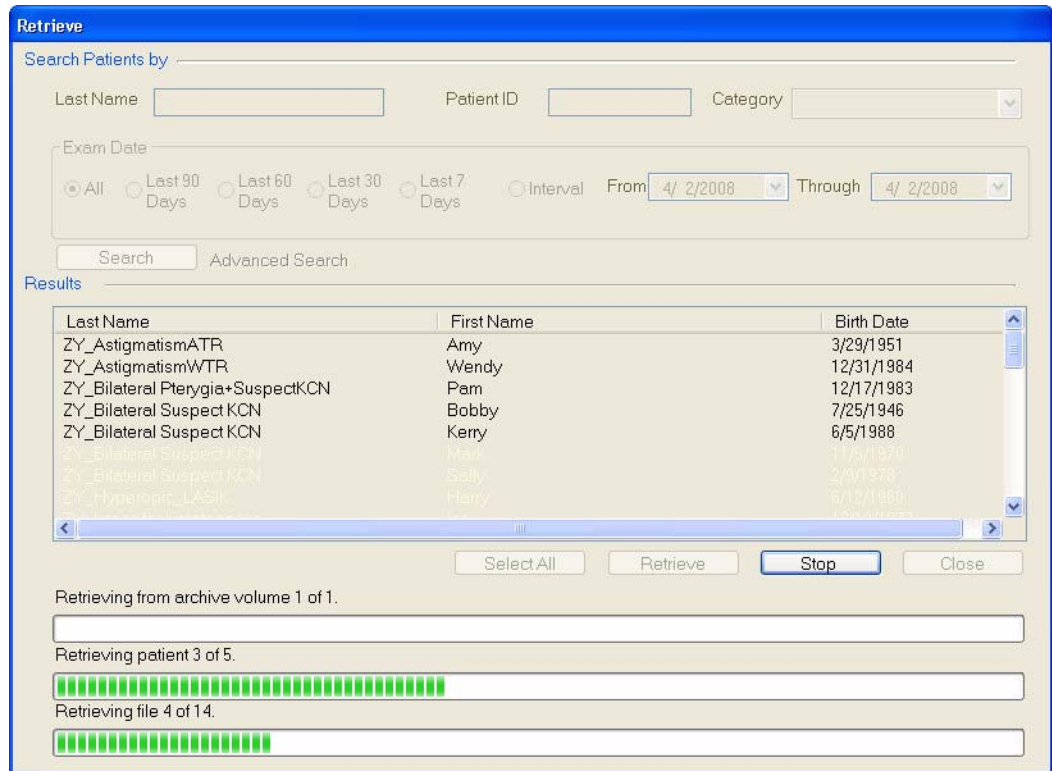

Figure 10-29 Retrieving Exams
6. The software checks in which archive location(s) the matching exams are stored, and starts the retrieval process one archive at a time (Figure 10-29).